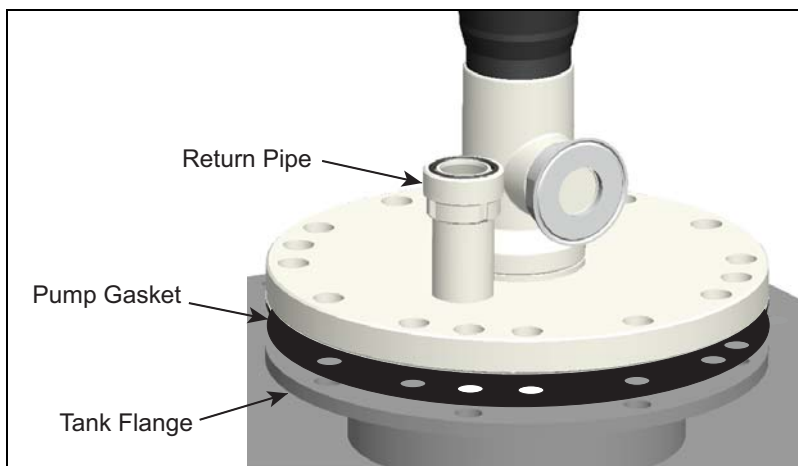

Figure 6. Installing DEF Pump Into Tank
2. Place the Pump Gasket onto the Tank Flange surface and align the bolt holes. Carefully lift and lower the RJ DEF Pump into the access chamber and through the opening in the Tank Flange resting the bottom of the RJ DEF Pump Flange on the Pump Flange Gasket being sure to align the bolt holes to achieve desired orientation of the RJ DEF Pump Discharge connection relative to the sump's DEF product line connection. Care must be taken to not hold the pump by the return pipe Reference Figure 6.